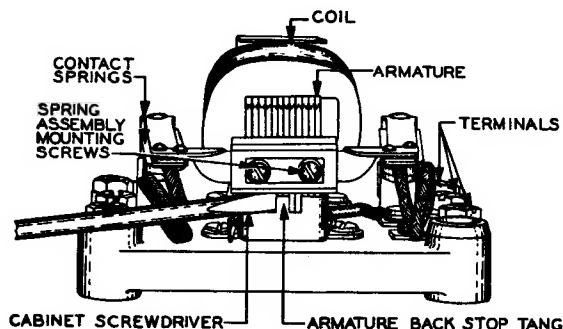

Fig. 11 - Method of Adjusting Armature Backstop Tang - Using 3-inch Cabinet Screwdriver
(2) To decrease contact gap and armature air gap of relays of the type shown in Fig. 11, insert the blade of the 3-inch cabinet screwdriver between the armature backstop tang and the backstop frame. Using the screwdriver as a lever, bend the backstop
tang toward the armature by pressing the screwdriver against the tang. If the contact gap or armature air gap is too small, correct it by inserting the screwdriver between the backstop tang and the frame as shown in Fig. 11. Using the screwdriver as a lever, pry the tang away from the armature. Exercise care not to break the tang which is short and somewhat brittle.